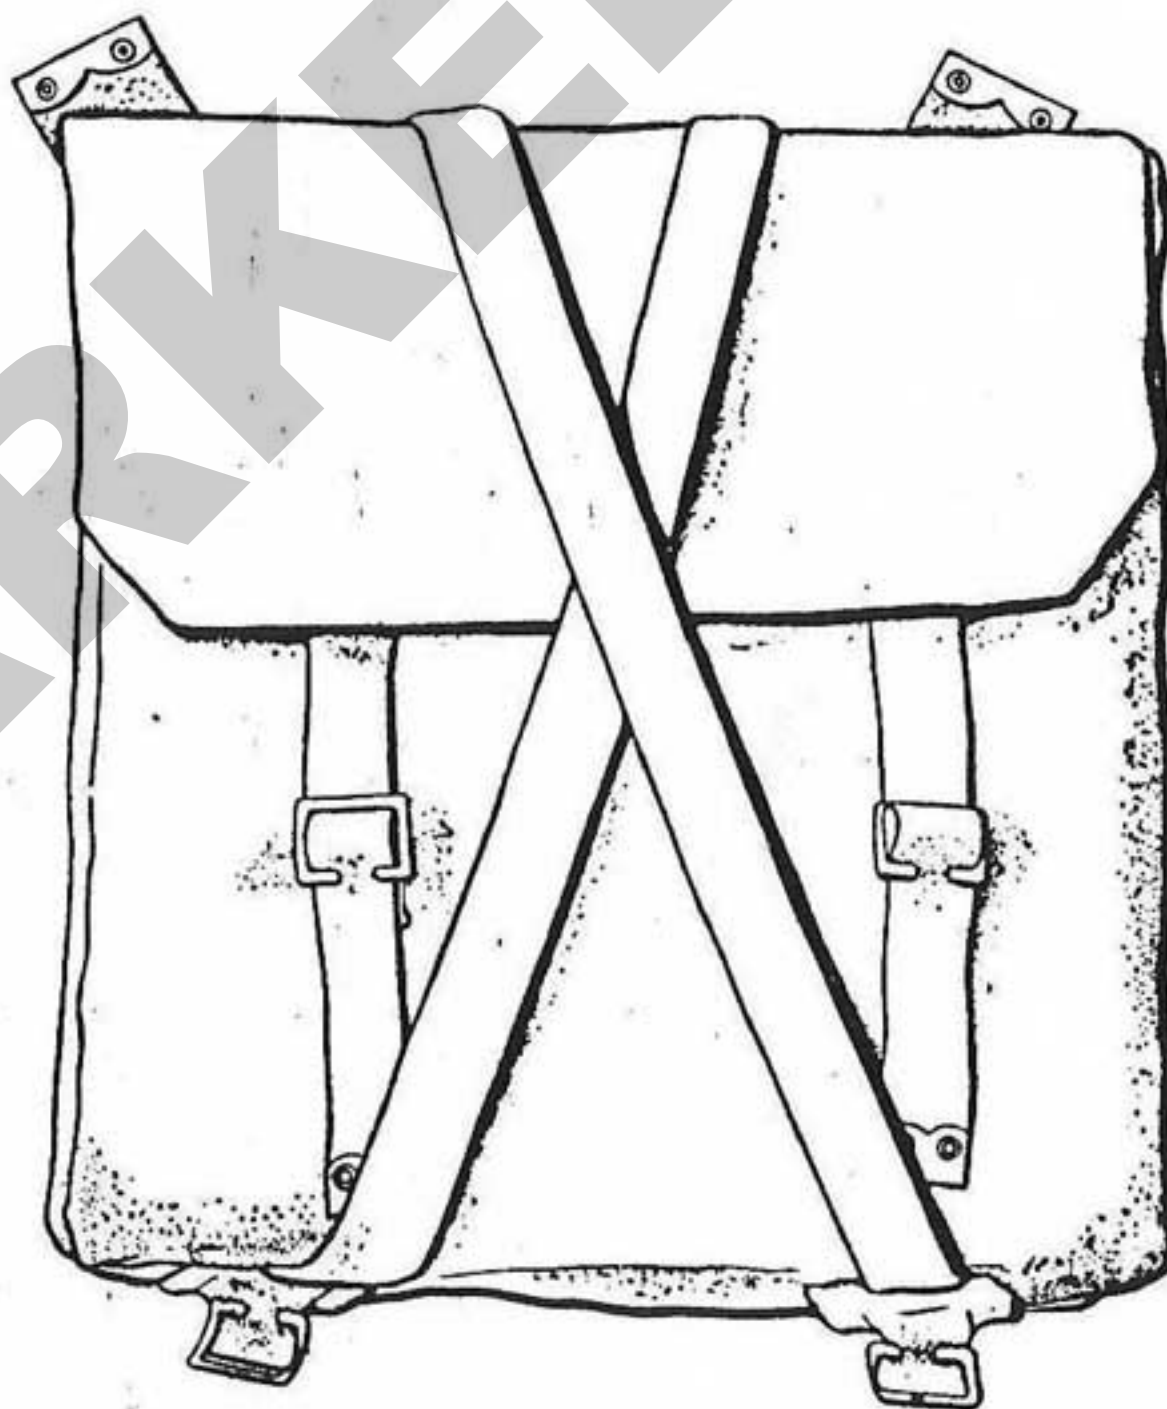

Fig. 13. Pack, with securing straps in place
17. The supporting straps are passed through the two becketts at the bottom of the pack, the buckles being hauled up close. The ends are then passed up and crossed, then secured to the buckles at the top inside the pack. (See Fig. 13.) The pack is kept in position by the shoulder straps in a similar way to the haversack. It can be removed in the same manner as the haversack is removed. (See *para.* 14.)